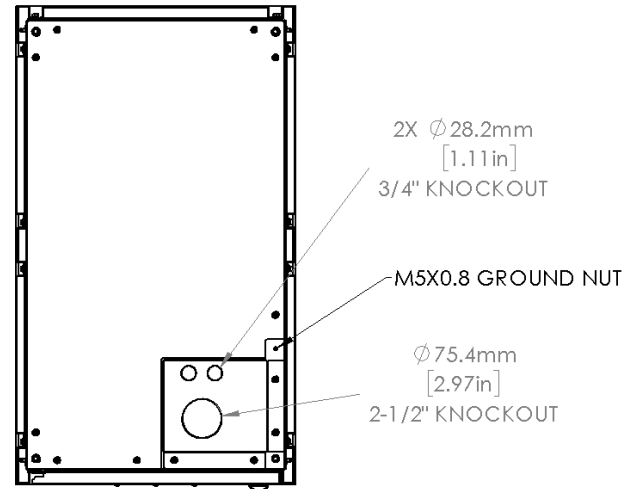

Figure 4 - Knockout and ground details.
2. DC: Connect the positive and negative conductors to the circuit breaker. Refer to Figures 4 and 5 a/b for information.